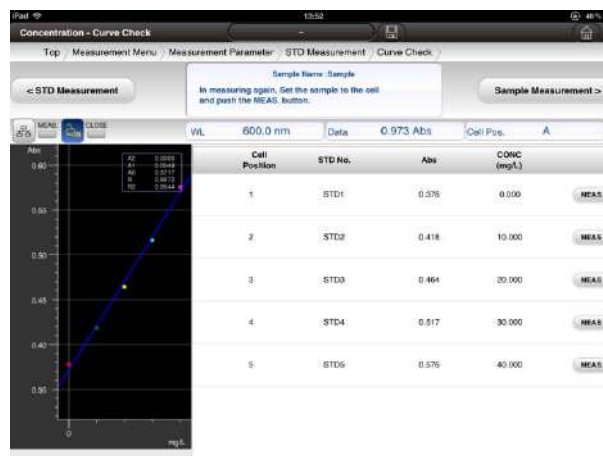

Fig. 4-18 Calibration Curve Confirmation Window
- (1) Press **Curve Check >** [Curve Check] button and move to the calibration curve confirmation window. The calibration curve confirmation window (Fig. 4-18) will be shown.